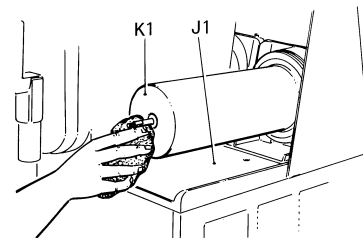

FIGURE 23
13. Clean the drip tray (J1) and the evaporator (K1) (FIGURE 23).